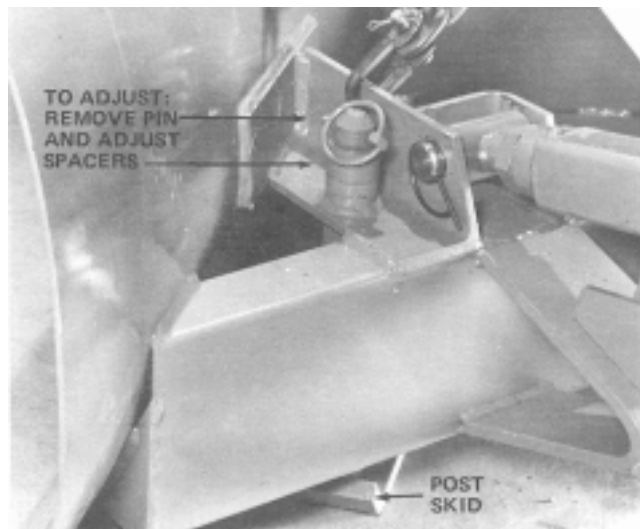

Figure 12
3. If plow will be used on concrete or asphalt surfaces, post skids (Fig. 12) must be adjusted upward so plow contacts surface. By contrast, skids must be adjusted downward—raise plow off surface—when plow will be used on gravel or crushed rock surfaces.